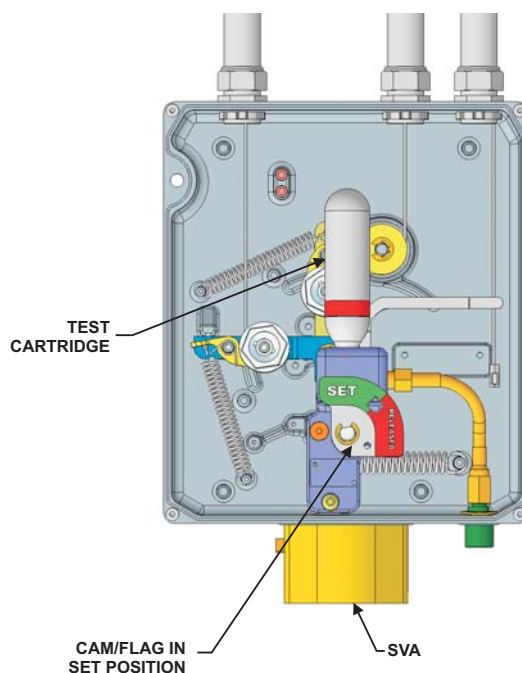

Figure 5-12. XV Control System, Test Cartridge
1. Ensure that the system is in the 'Set' position and the Keeper Pin is in place. Carefully install the Test Cartridge (P/N 87-120043-001) into the valve assembly of the XV Control System. Tighten until cartridge is snug (see Figure 5-12).